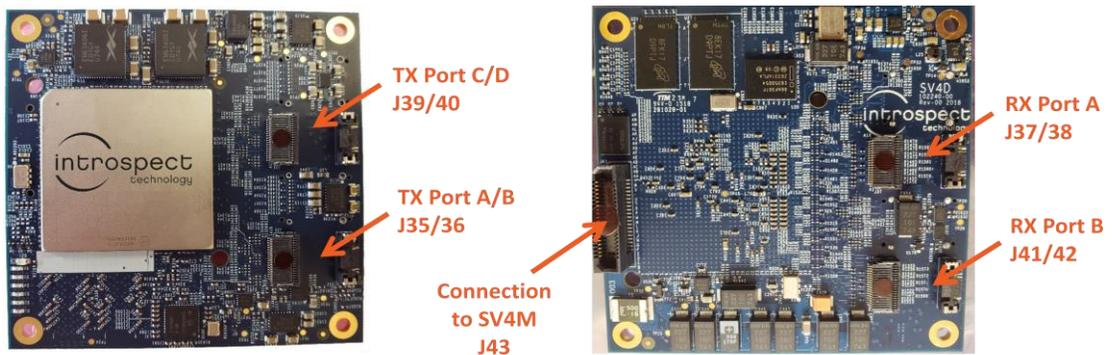
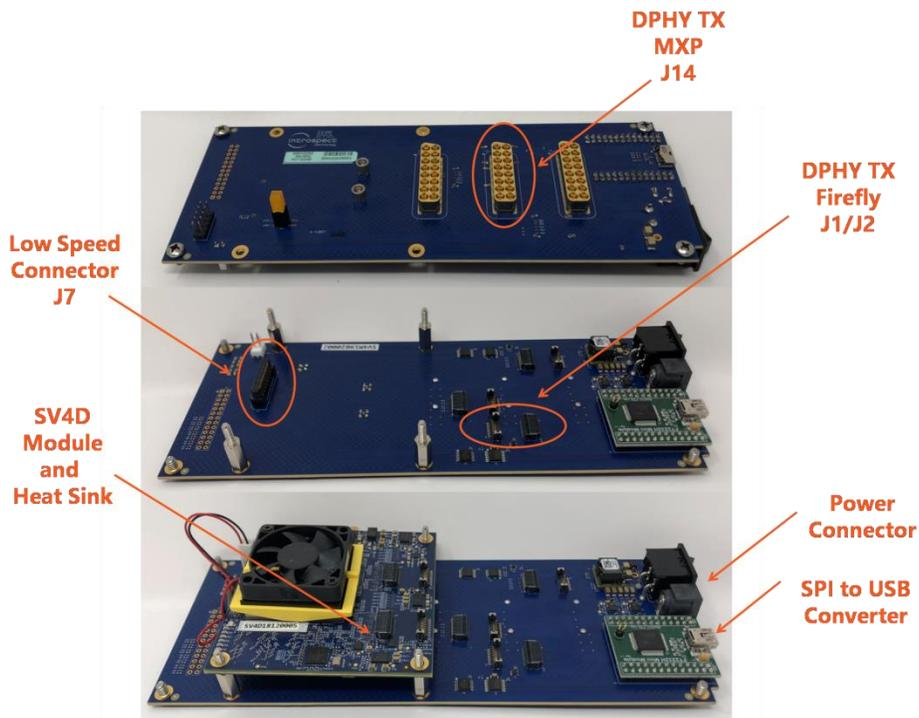

Figure 2 SV4D module, including TX and RX connector locations
Figure 3 SV4M Test Board, including connector locations
- **1 x SV4D MIPI Test Module.** See Figure 2 on page 6
- **1 x SV4M Carrier Board.** The SV4D is mounted on the SV4M via the connector **J43 (SV4D) / J1 (SV4M)**. See Figure 2 and Figure 3
The SV4D module is shown in Figure 2, and the locations of TX Ports A, B, C, and D are labelled.
The low speed connector (J43 in Figure 2) provides all additional communication between the SV4D and SV4M.
Three views of the SV4M carrier board are shown in Figure 3: (a) the top side of the SV4M, with MXP connectors for high-speed signals, (b) the bottom side of the SV4M, for connection to the SV4D, and (c) the bottom side of the SV4M with the SV4D and heat sink / cooling fan installed.
The center MXP connector, as labelled in Figure 3, is designated for the DPHY TX signals (either Port A or C depending on the Firefly cable connection). The pin mapping for this MXP cable is provided in Table 1 below.